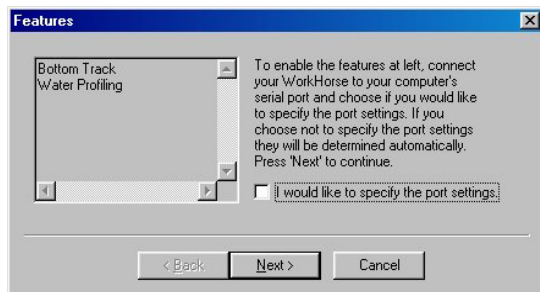

Figure 1. Installing Feature Upgrades
- d. In the **Open** box, type A:XXnnnnn.exe, where XX is the upgrade abbreviation (see Table 1) and nnnnn is the ADCP’s system serial number. The installation program will start (see Figure 1). The program is encoded with the ADCP’s CPU serial number and the requested feature upgrade.